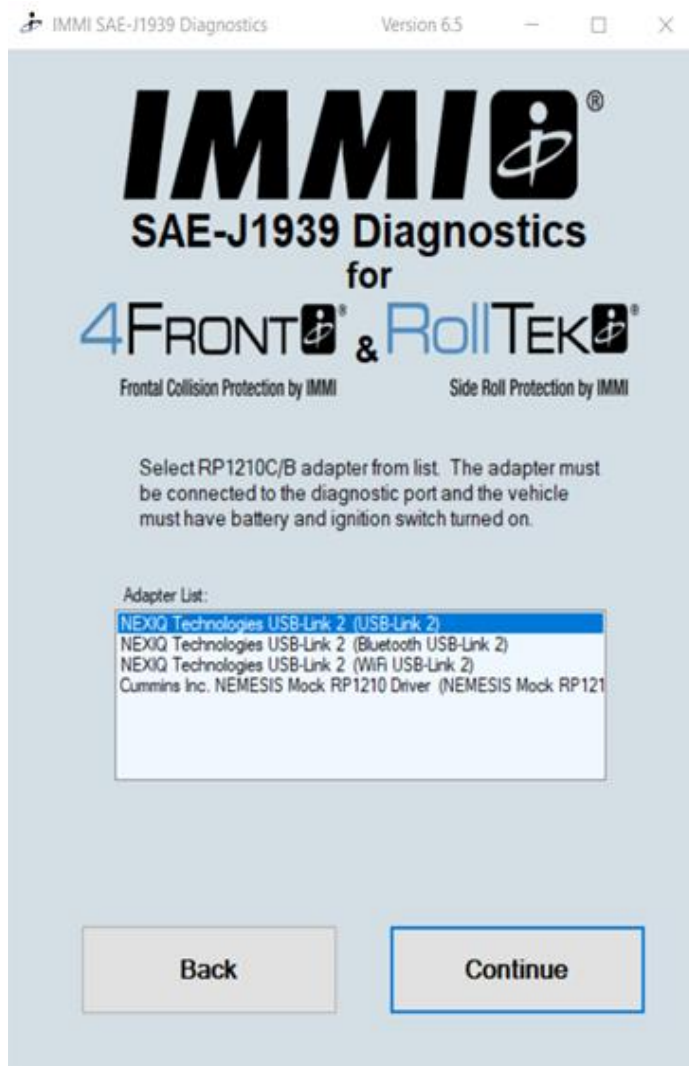

Figure 9.1
17) Select appropriate adapter from adapter list as shown in Figure 9.1.